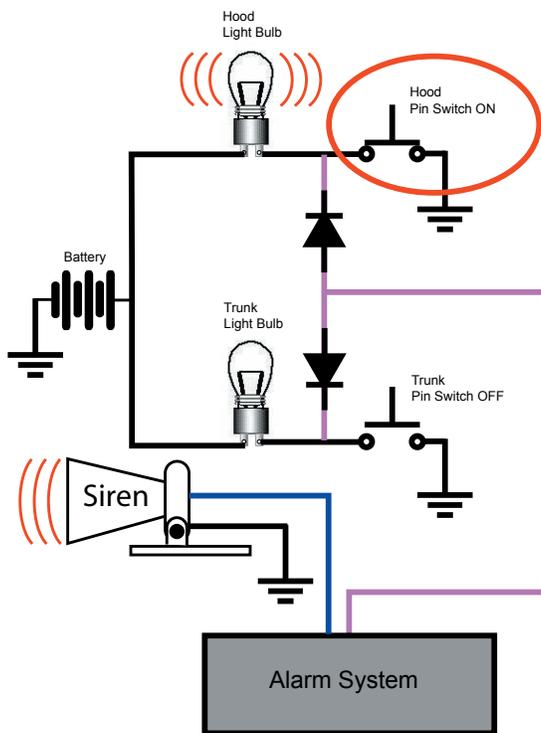

Figure 7
In order to prevent this from happening two (2) diodes are introduced to the circuit (Figure 7). This allows the ground signal from each pin switch to travel to the alarm sensor wire but prevents the light bulbs from sharing a ground at either pin switch. Remember, a ground signal will only flow through a diode in one direction (cathode to anode). The ground signal can only travel to its own light bulb or to the alarm, it can not travel to the other light bulb that is not part of its circuit. Figure 7 shows the hood switch as being activated, however, only the hood light bulb comes on. Note that the trunk light remains off while the hood is open.